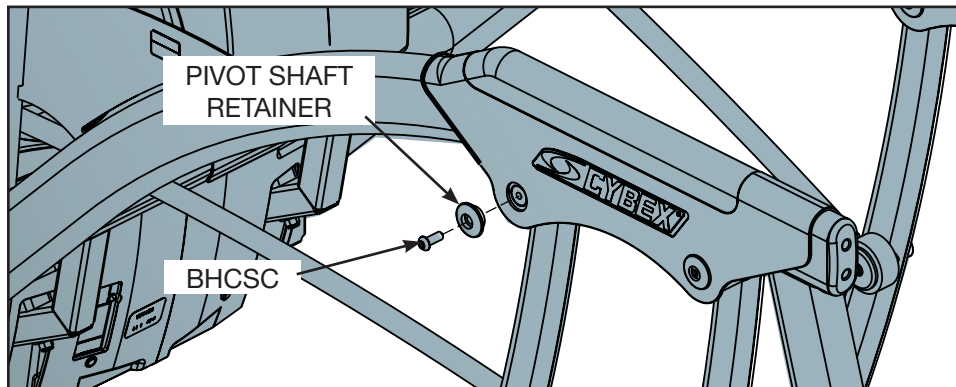

Figure 3
- B. Using a 7/32" Allen wrench (#14) remove the left screw .375-16 x 1.00 and pivot shaft retainer from the main frame and set aside. See Figure 3.